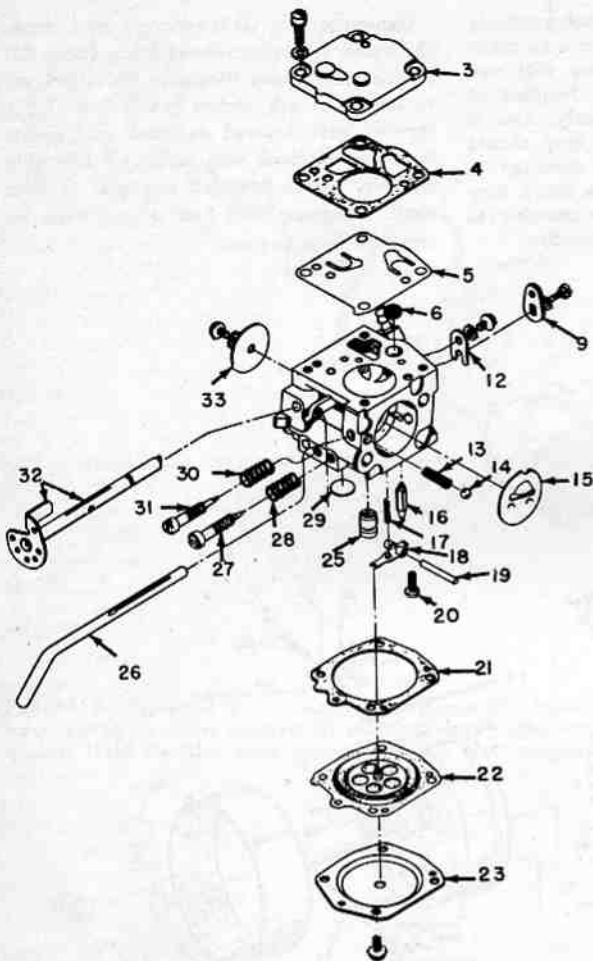

Fig. HL20 — Exploded view of Tillotson Series HS carburetor used on model 251 engine. Note that carburetor is shown inverted from actual position on engine.
Fig. HL21—Exploded view of air intake manifold (4), air filter element (3) and cover (2), carburetor assembly (15), reed type intake valve and related parts. Throttle control rod (9) and knob (7) are not used on generator engines. Refer to Fig. HL20 for exploded view of carburetor.